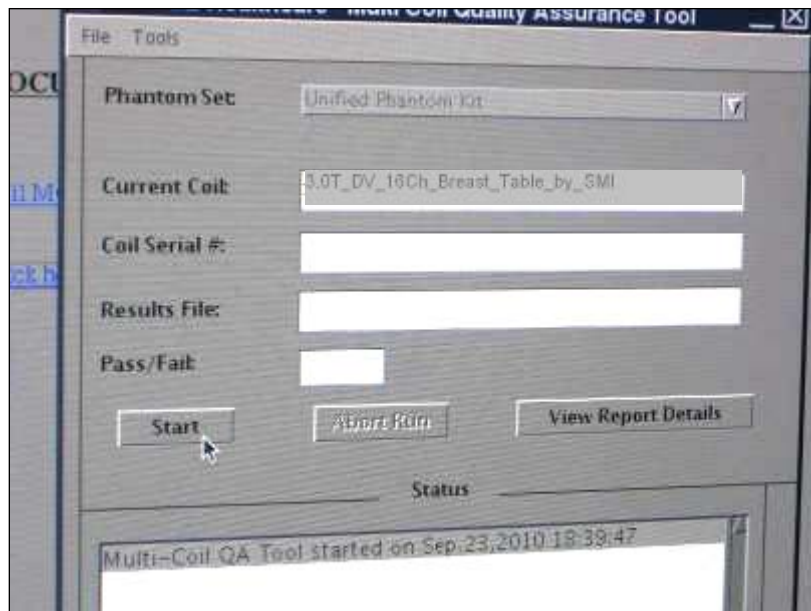

Figure 28: Screen Capture – MCQA Tool Start
6. Do not start a new patient; open the Tools box, and start MR Service Desktop. Select the top tab marked 'Image Quality.' In the side menu, select 'Multi-Coil QA Tool', then 'Click here to start this tool.' The program shown in Figure 28 will start: